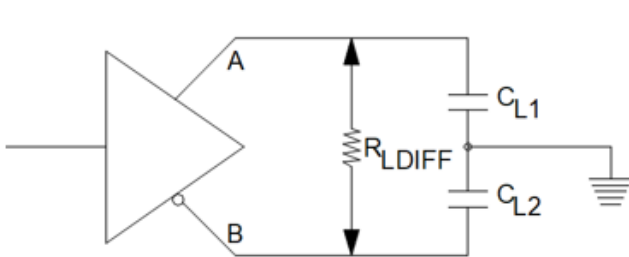

FIGURE 10. Driver Propagation Delay.
- 6/ See FIGURE 10 for the definition of R_{LDIFF}.